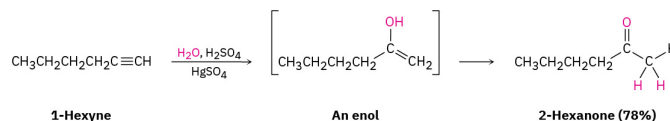

Figure 22.3k. Hydration of 1-hexyne to produce 2-hexanone. (credit: Organic Chemistry \(OpenStax\), CC BY-NC-SA 4.0).
Hydration of alkynes also can take place. Alkynes don't react directly with aqueous acid but will undergo hydration readily in the presence of mercury(II) sulfate as a Lewis acid catalyst. The reaction occurs with Markovnikov regiochemistry, so the $-OH$ group adds to the more highly substituted carbon and the $-H$ attaches to the less highly substituted one as demonstrated in Figure 22.3k.